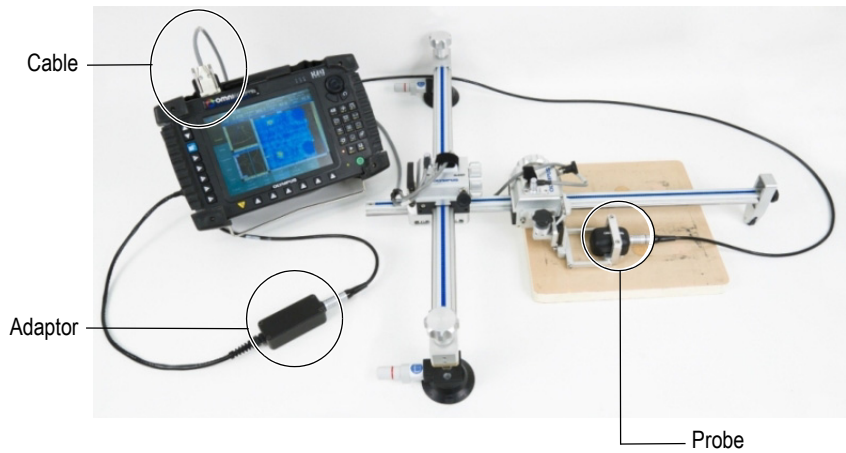

Figure 2-3 Connecting the adaptor and probe to the OmniScan
4. Connect the probe to the adaptor using the appropriate BondMaster cable, and then connect the adaptor to the OmniScan 4CH connector (see “Connecting the Probe and Adaptor” on page 30 and Figure 2-3 on page 31).
An example of a probe connection using the adaptor is shown Figure 2-3 on page 31. Refer to the *BondMaster Pitch-Catch Probe Adaptor – Getting Started Guide* (P/N: DMTA-20026-01EN [U8775252]) for more details about connecting the probe adaptor to the OmniScan.